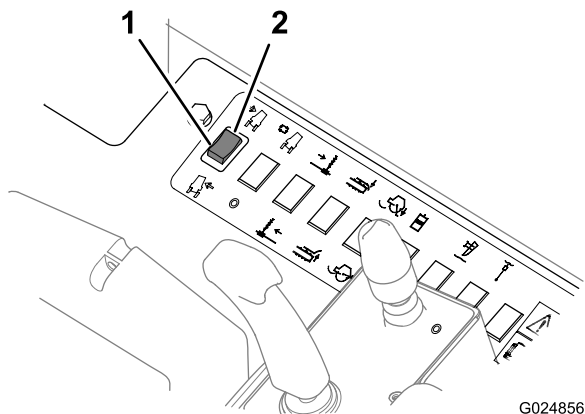
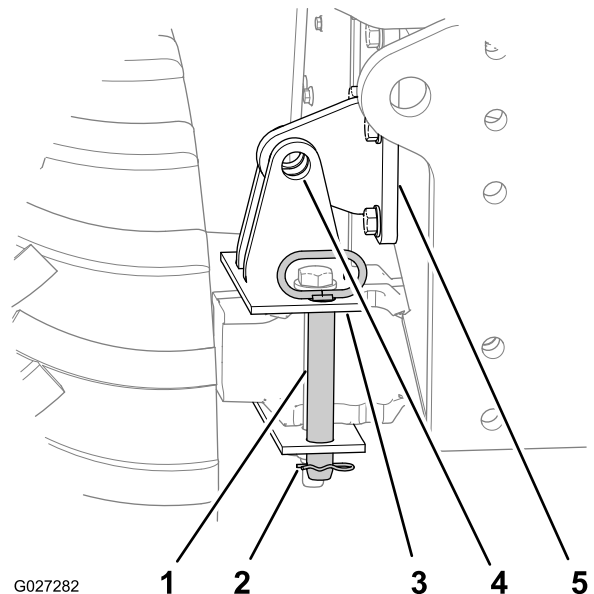

Figure 1
Figure 2
- A. Use the tilt switch to align the hole in the chassis-lockout bracket with the holes in the axle-lockout bracket (Figure 1 and Figure 2).
- B. Remove the hairpin from the tilt-lockout pin (Figure 2).
- C. Remove the tilt-lockout pin from the stowed position (Figure 2).
- D. Fully insert the tilt-lockout pin through the horizontal holes in the chassis-lockout bracket and axle-lockout bracket (Figure 2).
- E. Secure the tilt-lockout pin to the axle-lockout bracket with the hairpin (Figure 2).